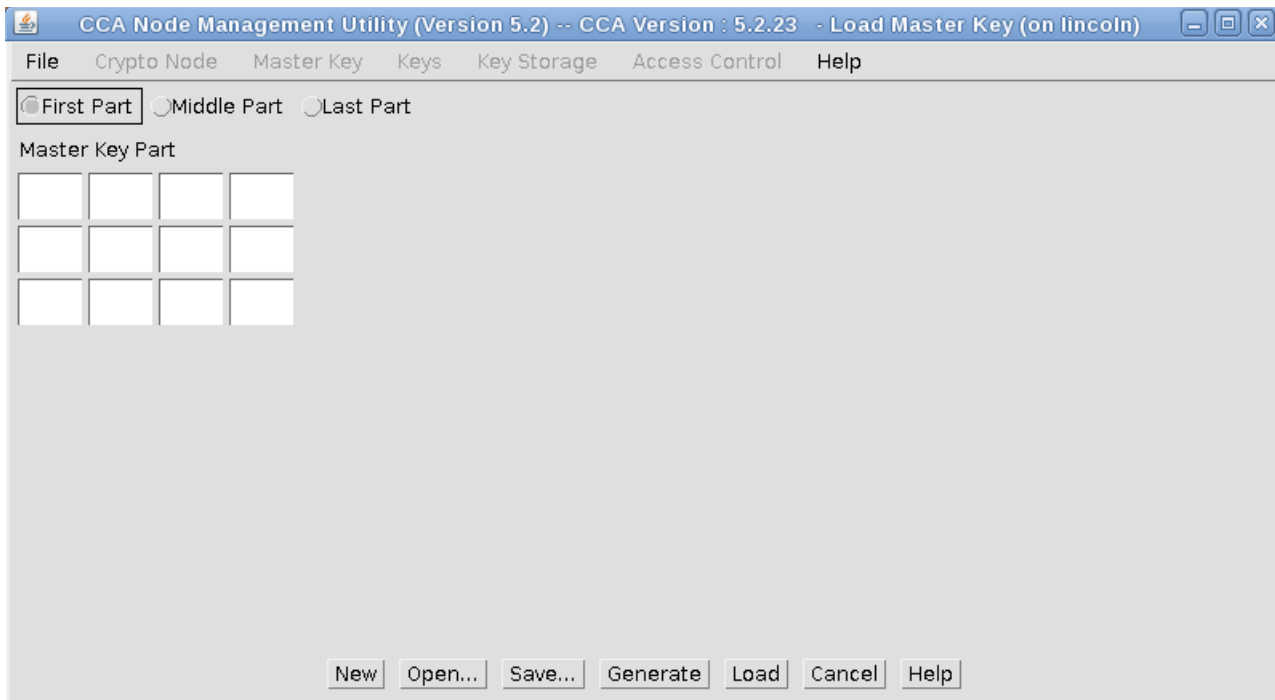

Figure 5. Load Master Key window
1. From the **Master Key** menu, select either **DES/PKA Master Keys** or **AES Master Key**, and then click **Parts**. The Load Master Key window is displayed as shown in Figure 5 on page 32.